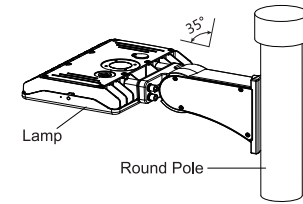

Figure 21
Step 2: Fix the direct bracket to the square pole with bolt. Connect the power cable to the pole cable, make sure good protection on wire connection, and put the wire in the direct bracket; close the side lid and tighten it, (Figure 21) then finish installation.
Notice: Adjustable angle is 0~35°(Figure 21)